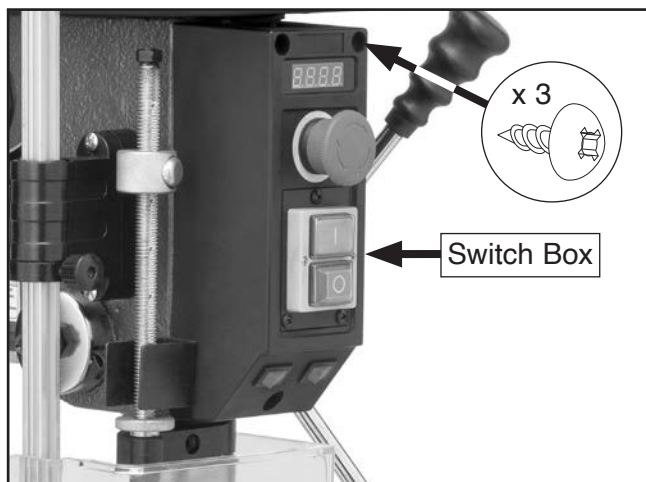

Figure 74. Location of switch box and securing screws.
5. Remove (3) tap screws shown in **Figure 74** to remove switch box from headstock.